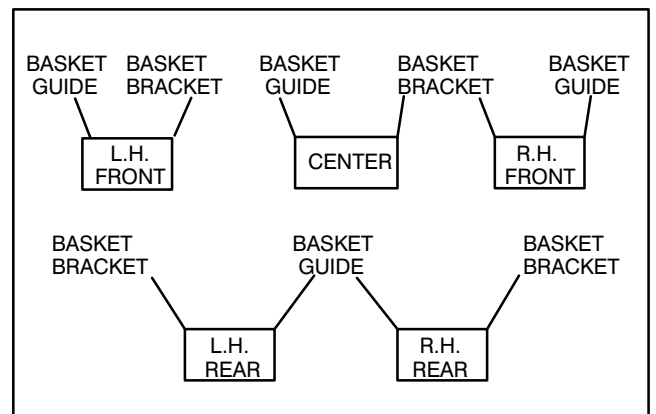
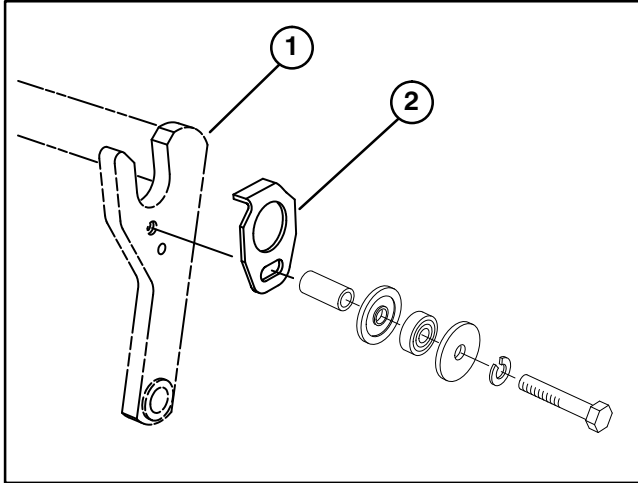
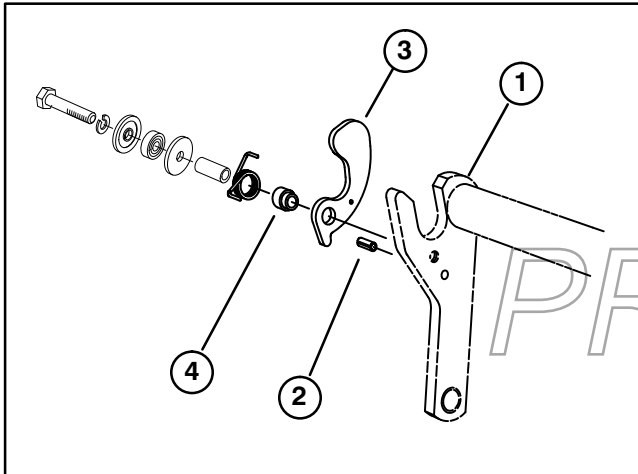

Figure 7
Figure 8
Figure 9
INSTALL CUTTING UNITS (Fig. 7–14)
2. If baskets will be installed, use chart below (Fig. 7) to determine locations at which basket guides or basket brackets must be mounted to cutting unit carrier frames. If baskets are not to be installed, proceed to step 7.
3. Remove hardware securing Turf compensation kit to each end of carrier frame (Fig. 8 & 9) and reuse when installing basket guides and basket brackets.
4. Mount a basket guide (Fig. 8) to the appropriate side of each cutting unit carrier frame (see figure 7) with a 5/16-18 x 1-3/4" lg. capscrew, flatwasher and lockwasher or fasteners previously removed, as shown in figure 8.
5. Install a roll pin (Fig. 9) into hole in appropriate side of each cutting unit carrier frame (Fig. 7).
6. On the same side of carrier frame as roll pin is installed, mount a basket bracket with a 5/16-18 x 1-3/4" lg. capscrew, lockwasher, flatwasher, torsion spring, basket collar or fasteners previously removed, as shown in figure 9. Torsion springs are different for L.H. and R.H. sides of carrier frames. Three are (2) L.H.